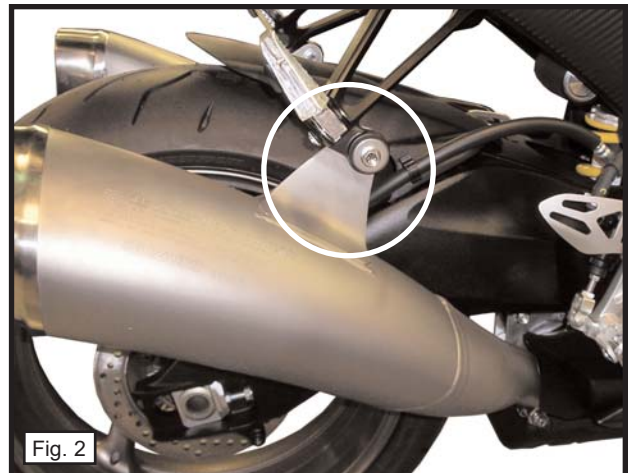

Fig. 2
- 3) Remove the bolt securing the stock right side muffler to the passenger peg mount. (Fig. 2)